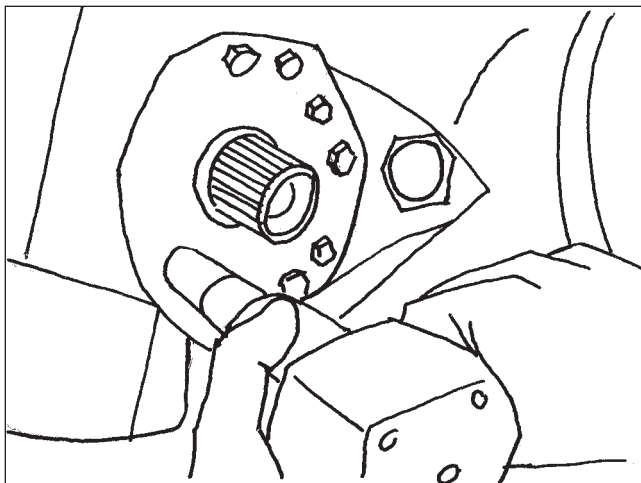

Figure 29
13. Install the sector shaft cover and torque the bolts to specification.(Figure 29).